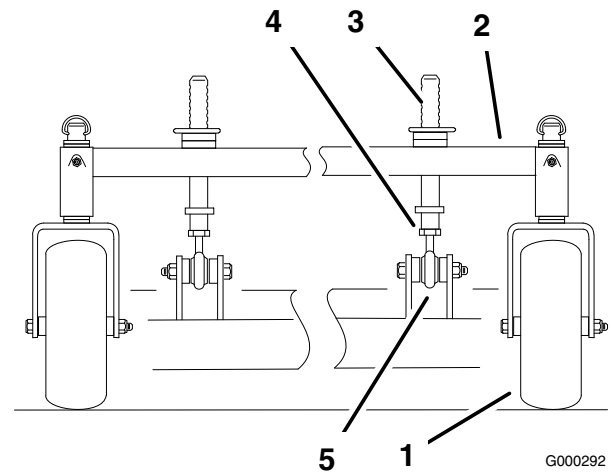

Figure 70
1. To change the front-to-rear pitch, the front height-of-cut posts can be adjusted (Figure 70).
2. To raise the front of the deck, loosen jam nut and rotate the front pin clockwise (Figure 70).
3. To lower the front of the deck, loosen jam nut and rotate the front pin counter clockwise (Figure 70).
6. Tighten the jam nuts (Figure 70).